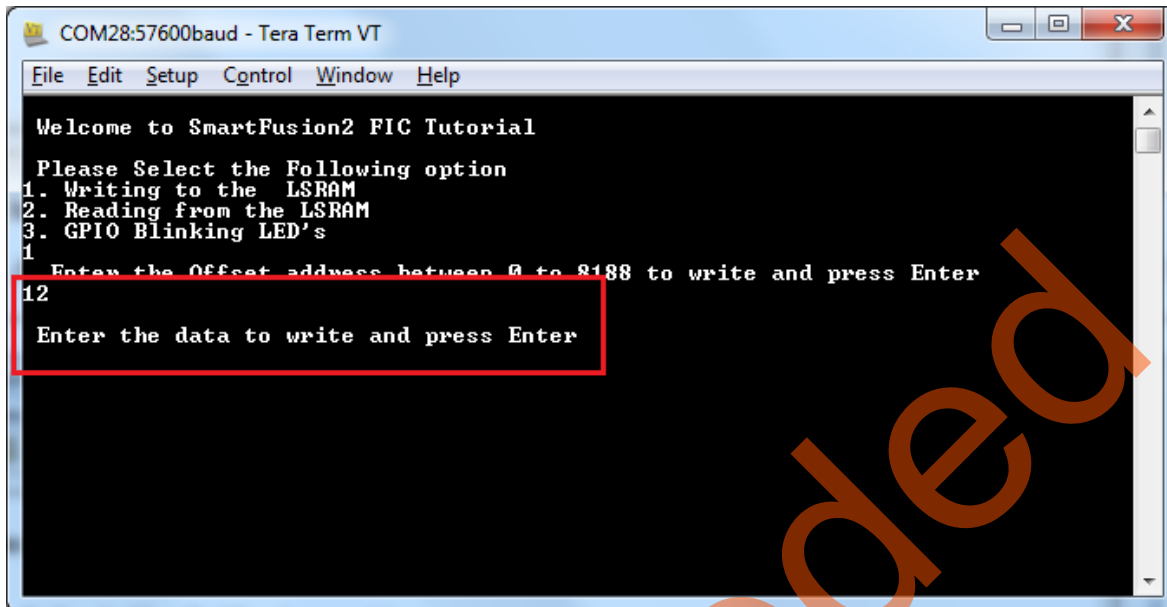

Figure 56 • Writing to LSRAM
10. After Entering the offset address, it prompts for **Enter data to write** as shown in Figure 56.